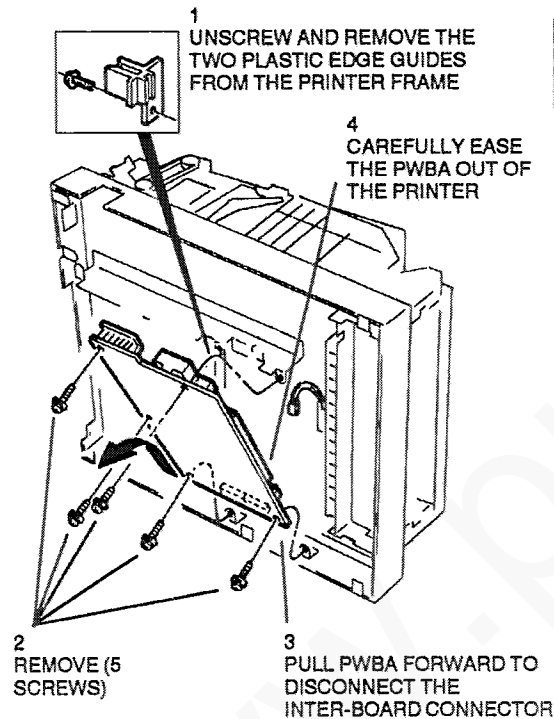

Figure 1. High voltage PWBA removal
4. (Figure 1) Remove the high voltage power supply PWBA.